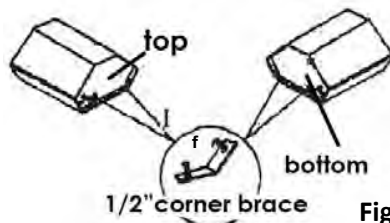

Figure 8
**6. Installing the corner braces (Figure 8):** Place the corner braces (f) on each top front corner and bottom front corner of the cabinet and secure them with 1/2" corner brace screws (b). Attach corner braces (g) where needed.